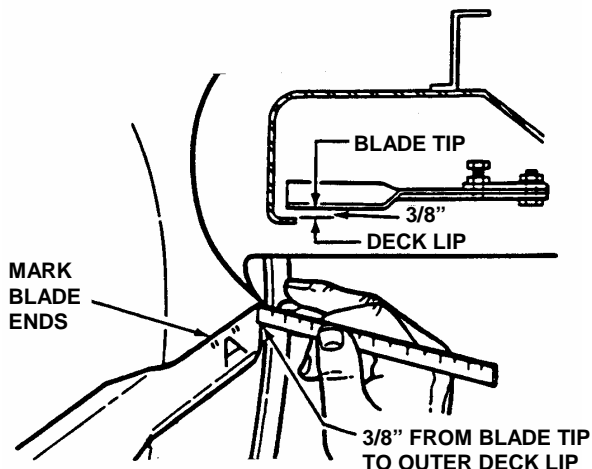

FIGURE 4.5
8. Measure the distance between deck lip and blade tip. **NOTE: On 33" decks, the measurement between the blade tip and deck lip should be 3/8".** See Figure 4.5.